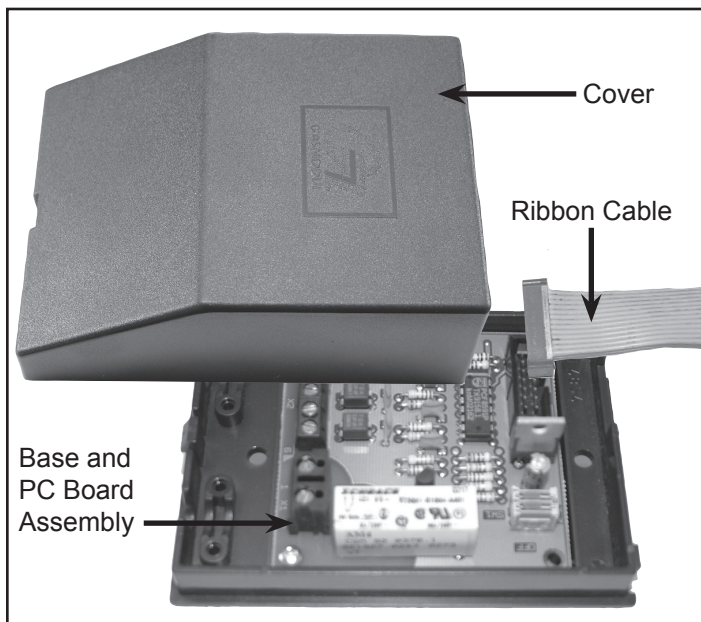

Figure 1 - HAM Module Assembly
3. With HAM cover removed, carefully insert either end of the ribbon cable into the HAM plug. Cable will fit into the cutout on the end of the module cover and base. (See Figure 1.)